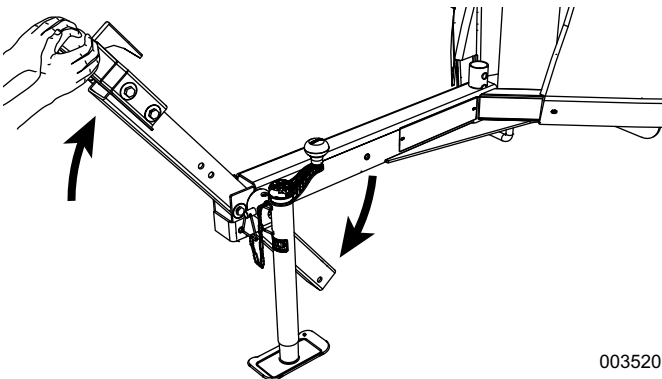

Figure 2-7. Pivot Trailer Tongue Into Storage Position
4. See Figure 2-7. Pivot trailer tongue into storage position.